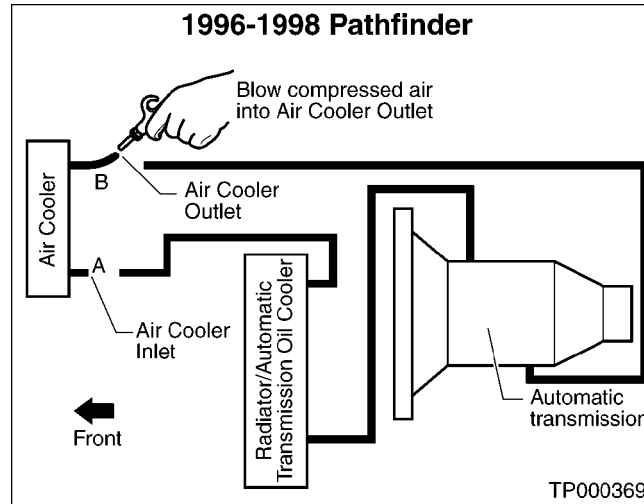

Figure 9
5. Insert the tip of an air gun into the end of the air cooler Outlet hose (see Point B, Figure 9).
7. Blow compressed air regulated to 5-9 kg/cm2 (70 – 130 PSI) through the air cooler Outlet hose to force any remaining oil or cleaner through the air cooler and out of the air cooler Inlet hose (see Point A, Figure 9).